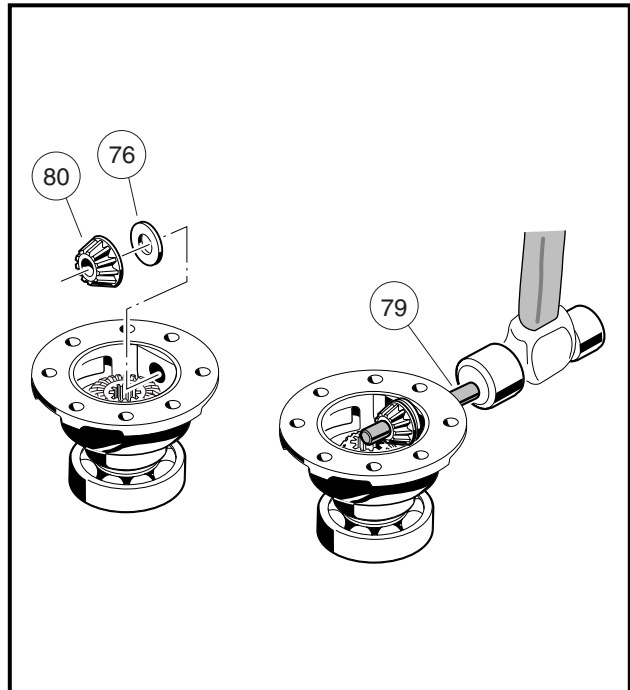

Figure 6-35 Idler Gear
- Start the differential pin (79) into the carrier case by lightly tapping it in with a plastic or rubber hammer. Before the pin enters the inside of the carrier case, position the thrust plate (76) and idler gear (80) in the case and continue tapping the pin through the thrust plate and idler gear (**Figure 6-35, Page 6-18**).